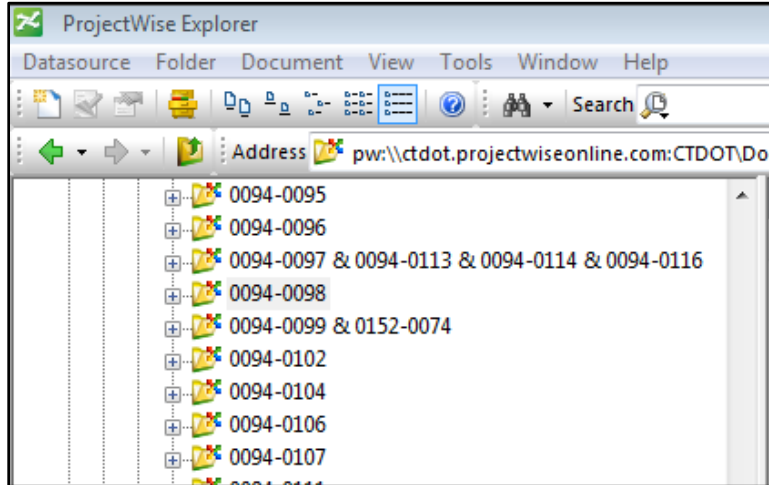

Figure 18. ProjectWise plans by town number.
1. Navigate to plans within the Town assigned to you using the Town Number (Figure 18, below):